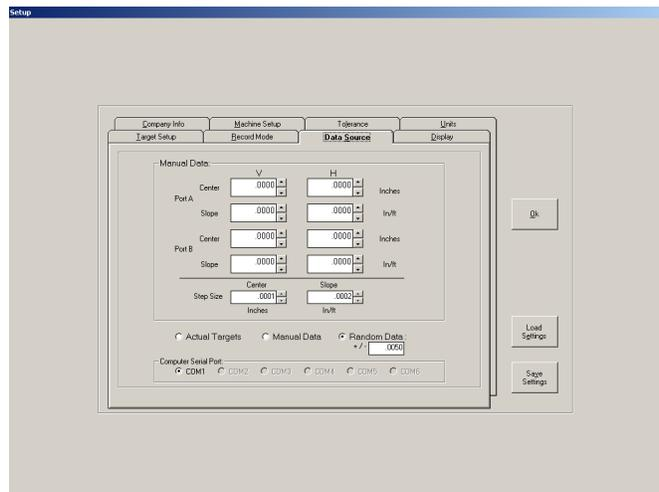

Figure 21 – Data Source Setup Screen
**Random Data** – This feature can be used to randomly generate data for teaching or demonstration purposes. The data range allows the user to select the maximum range of values that will be generated randomly. For example, in Figure 21 the random data generated will fluctuate by  $\pm 0.0050$  in.